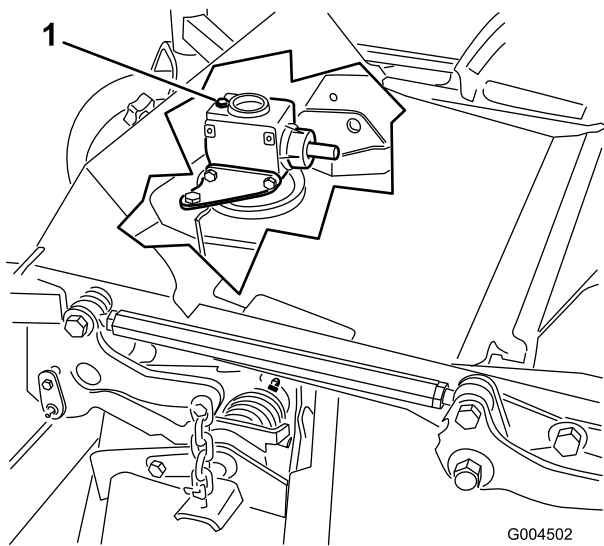

Figure 33
6. Remove the dipstick/fill plug from the top of the gearbox and make sure that the lubricant is between the marks on the dipstick (Figure 33).
6. Remove the dipstick/fill plug from the top of the gearbox (Figure 33).